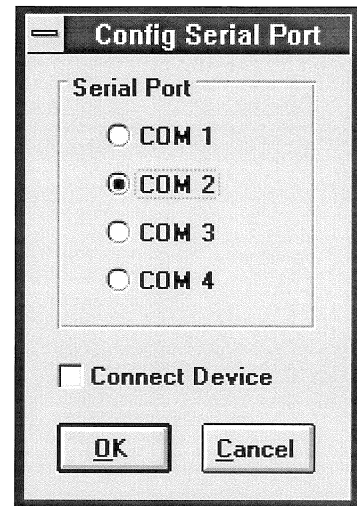

Figure 8
choose main menu, **C**onfig, **S**erial **P**ort to load the Config Serial Port window (see figure 8)
Note 2 : If program the program fails in attempting to establish connection by itself, a message will be displayed and the Config Serial Port panel will show (see figure 8) to allow user to change or check the serial port.
**Note 1 :** If the connection fails, the Serial Port window (see figure 8 page 7) will be loaded. If the communication can then be established, the Syringes Command window will show. In case of unsuccess verify the serial port number or verify that MPS-51/W device is turned on and connected correctly.